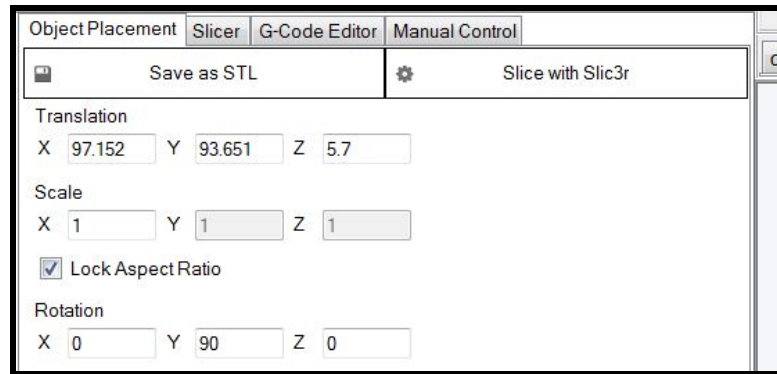

Figure 3.10: Correct Object Placement Values
55. Notice that the part is standing on one side. Under the **Object Placement** tab on the right-hand side of the screen, change the values for Translation, Scale, and Rotation to have the values for their respective X, Y, and Z values as shown in Figure 3.10.